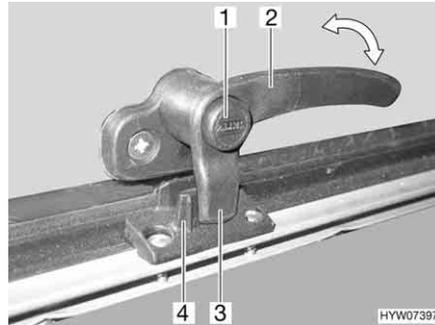
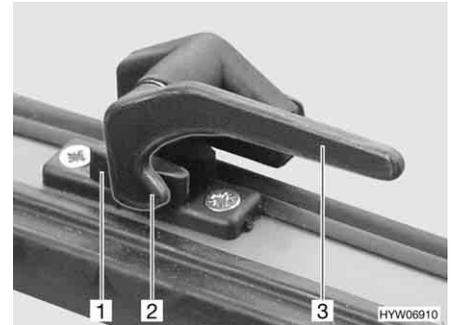

Fig. 57 Catch lever with safety knob in "closed" position
Fig. 58 Catch lever in "closed" position
- Press and hold the security button (Fig. 57,1), if present.
- Turn the catch lever (Fig. 57,2 or Fig. 58,3) a quarter turn towards the centre of the window.
- Turn the catch lever (Fig. 57,2 or Fig. 58,3) a quarter turn towards the window frame. The locking catch (Fig. 57,3 or Fig. 58,2) on the catch lever is entirely on the inner side of the window catch (Fig. 57,4 or Fig. 58,1).
- "Firmly closed" (Fig. 57 and Fig. 58)